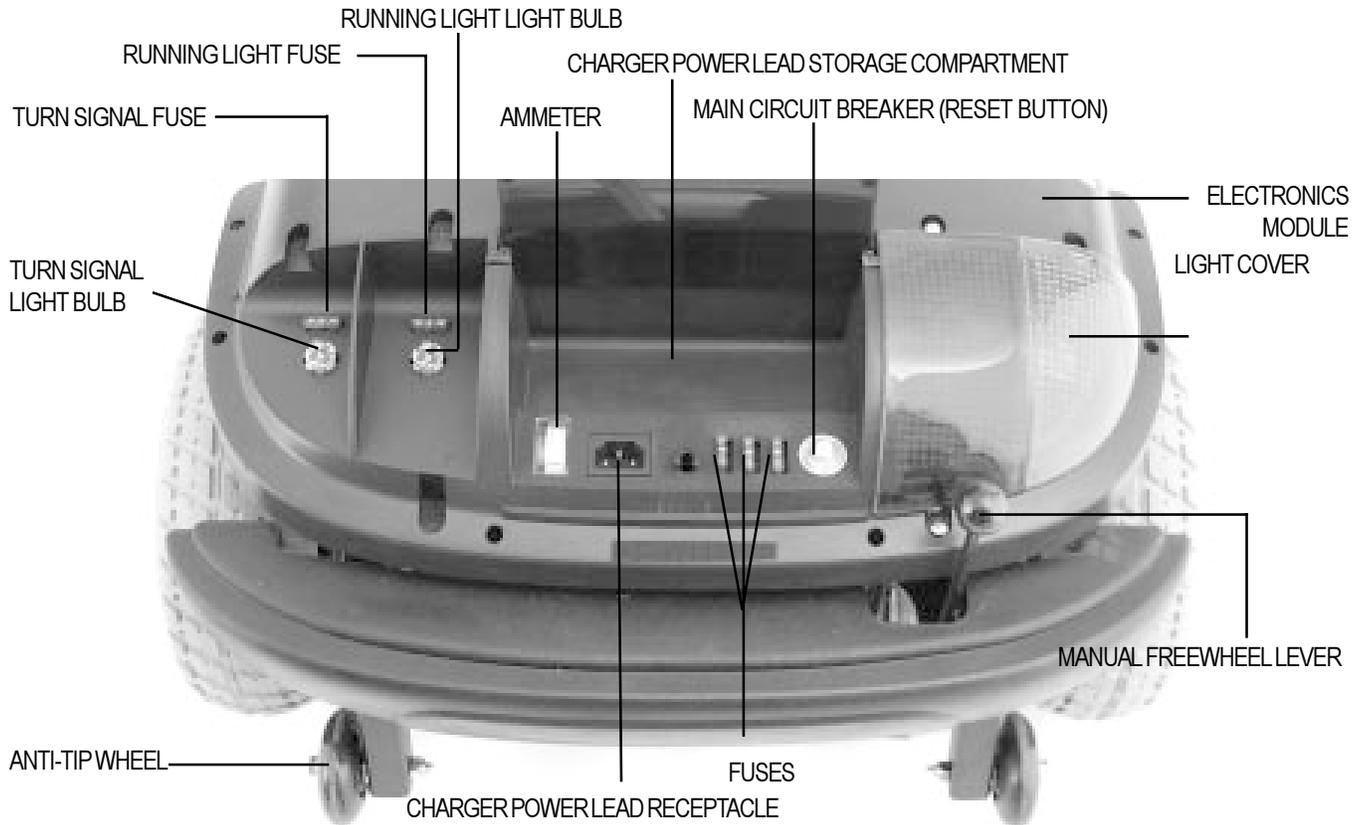

FIGURE 8. REAR SECTION (LEFT LIGHT COVER REMOVED FOR CLARITY)
The onboard battery charger (not shown), the charger power lead receptacle, the batteries (not shown), the electronics module, the main circuit breaker (reset button), the ammeter, the manual freewheel lever, the anti-tip wheels, and the motor/transaxle assembly (not shown) are located on the rear section of your Celebrity. See figure 8. Refer to VIII. “Disassembly and Assembly” for instructions on removing the rear shroud, which cover the rear section.
- The main circuit breaker reset button pops out when the breaker trips. See figure 8.
- The manual freewheel lever is located on the end of the motor/transaxle assembly at the right rear of the Celebrity. See figure 8.
The anti-tip wheels are an integral and important safety feature of your Celebrity. Do not, under any circumstances, remove the anti-tip wheels from your Celebrity. See figure 8.
The fuses help protect your Celebrity's lighting, control console assembly, and charging systems from receiving an overload of electrical current. The fuses used in the Celebrity are the same type automobiles use. See figure 8.